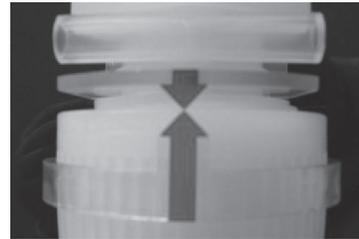

Figure 7
3. Slide the large clip down the nut until the tips of the two red arrows are in contact with each other (Figure 7).